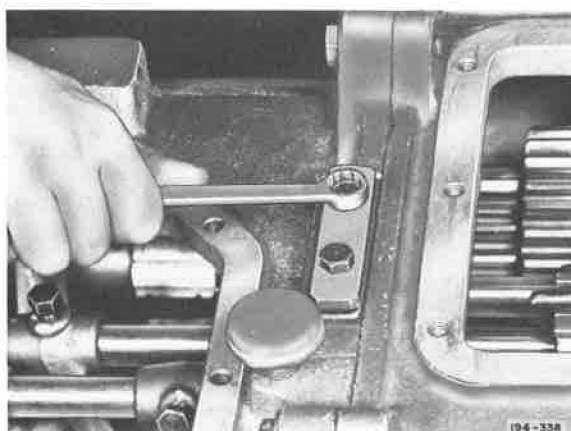

Figure 5-65. Tightening Shift Rail Poppet Ball Cover Capscrews
29. Install poppet ball cover with capscrews and tighten capscrews to recommended torque. See Figure 5-65.